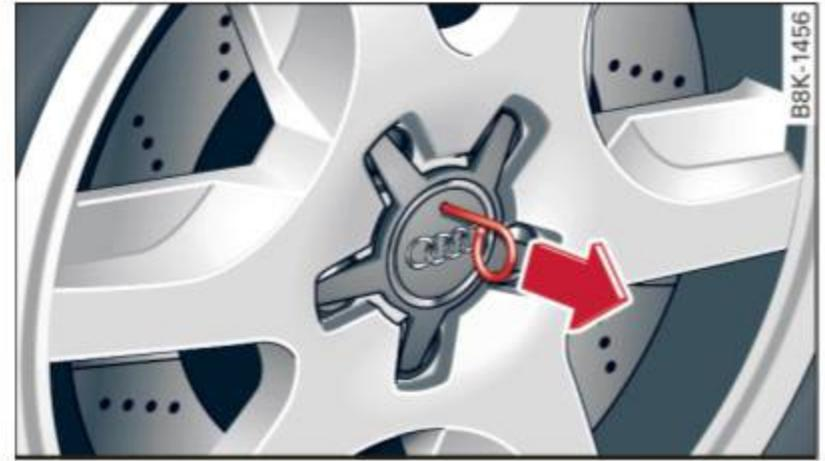

Fig. 202 Changing a wheel: removing the wheel cover
- ▶ Pull off the **decorative wheel cover** ⇒ fig. 202.